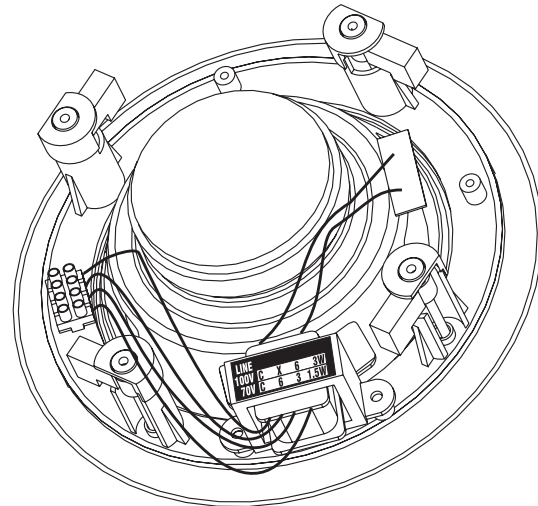

Fig. 10 – CL-5-T; input power selection terminals
Step 3 – Terminal connection: the speakers terminals are spring loaded. Watch the colour coding for polarity. For connection to transformer models, you will need to select the required input power and connect to the appropriate terminals (see Fig. 10).